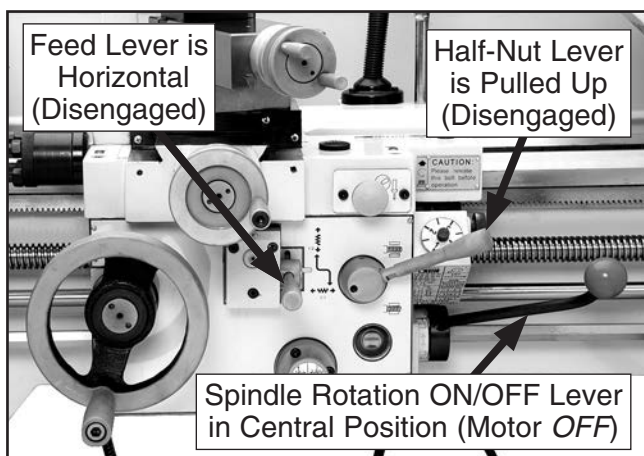

Figure 10. Apron controls positioned for test run.
3. Disengage the feed and half-nut levers, and move the spindle ON/OFF lever to the neutral position, as shown in **Figure 10**.
12. Move the spindle rotation ON/OFF lever (**Figure 10**) down until the chuck begins to turn. The top of the chuck should turn toward you.